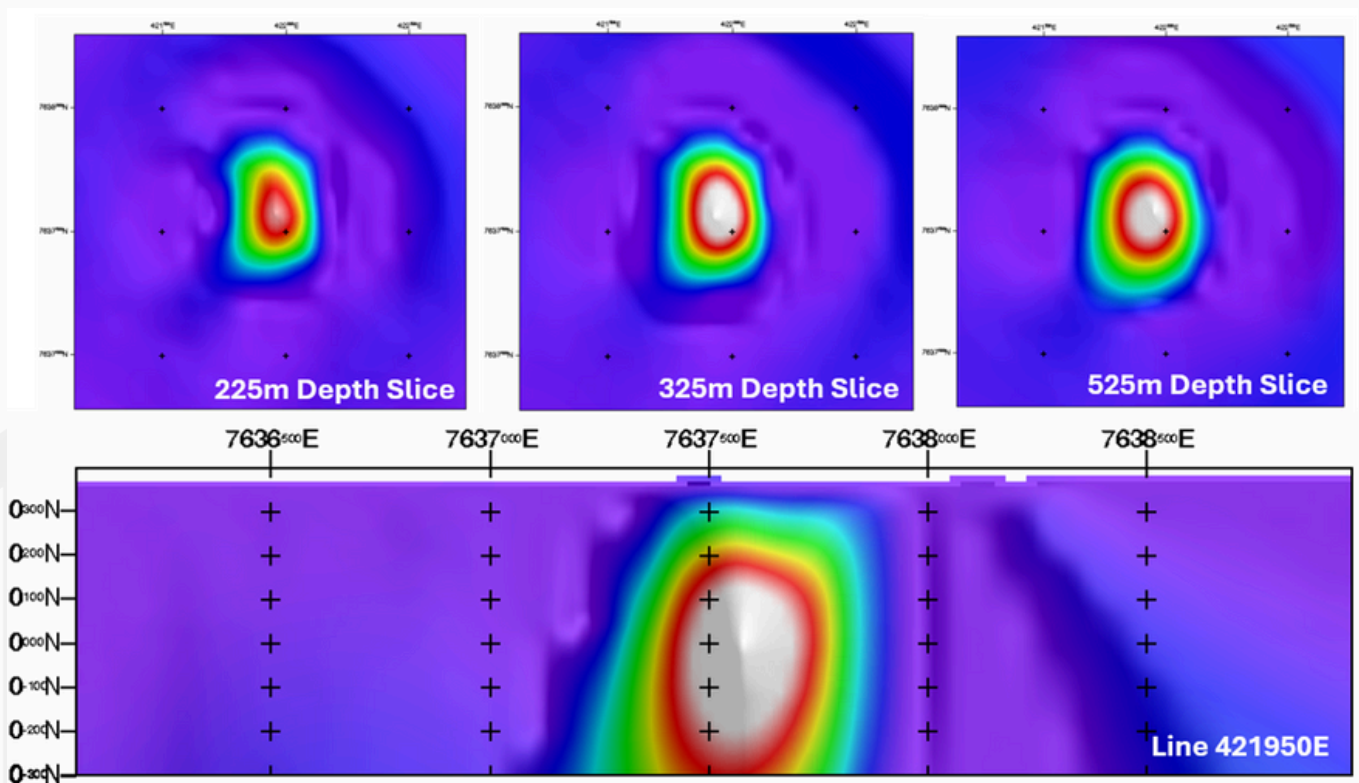

Figure 1. Stansmore Prospect – Magnetic Inversion
- **The Stansmore anomaly is modelled as a pipelike body approximately 500m in diameter, Figure 1**
Lycaon Resources Ltd (ASX: LYN) (**Lycaon** or the **Company**) is pleased to announce the results of geophysical modelling over the high priority **Stansmore** Project in the West Arunta region of Western Australia, Figure 1, 2.